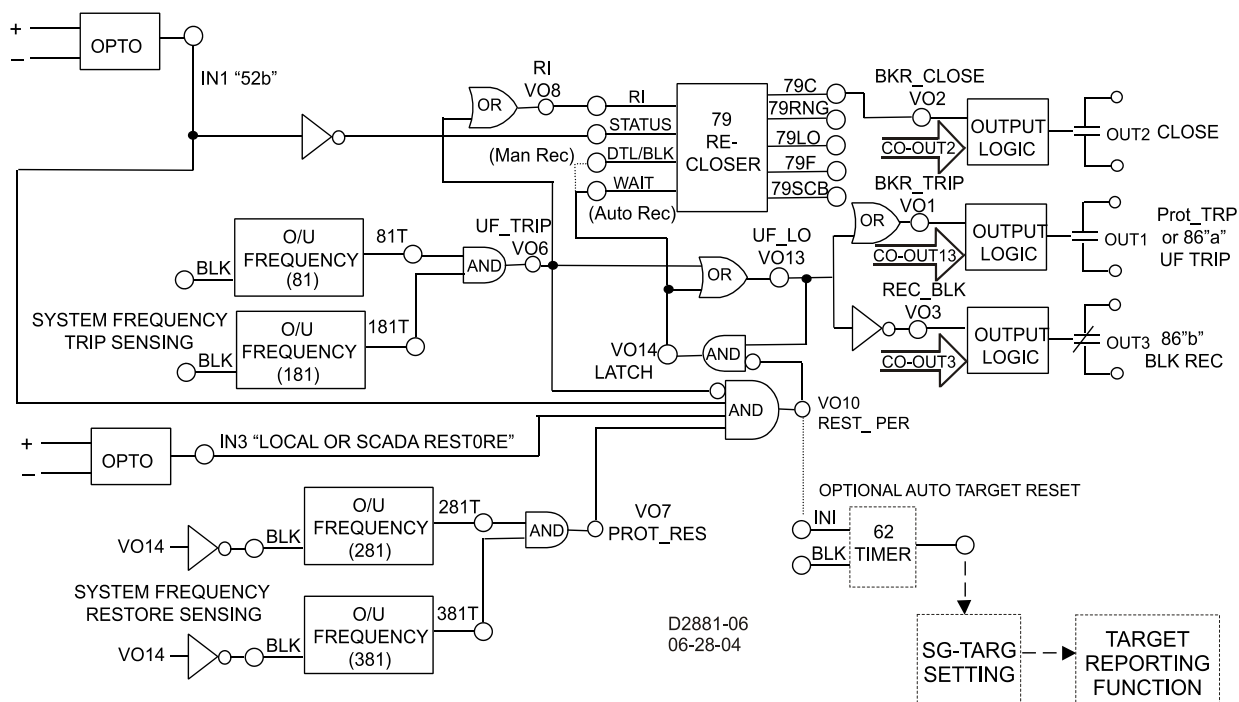

Figure 8-14. Underfrequency Load Shed, Circuit Level Application, Manual or Auto Close from SCADA or Local Restore
Referring to Figure 8-14, if sensing voltage is above the inhibit setting, and system frequency below the 81 and 181T setting, UF_TRIP, VO6 will go high. This in turn forces VO3 (UFLO_TRP) high, closing Output 3 Contact and tripping the user lockout(s) (86) devices and, in turn, tripping the associated breakers. When the “load condition” that caused the underfrequency event has subsided, the system operator/dispatcher will initiate a remote restoration procedure. A “restoration permissive” from the BE1-700 verifies that the following conditions are met prior to restoring load:
Referring to Figure 8-14, if sensing voltage is above the inhibit setting of the underfrequency elements 81 and 181T and system frequency is below the 81 and 181T setting, VO6, UF_TRIP goes high. This initiates the auto reclose sequence through VO8, RI and forces VO13 (UF_LO) high, closing and sealing the inputs to VO1 and VO3 through AND gate VO14 (LATCH). This allows the contacts of Output 3 and Output 4 to transition and remain in that state, simulating Aa and Ab contacts of an electrical reset lockout relay (86). The VO14 seal also removes the block input from the 281 and 381T overfrequency